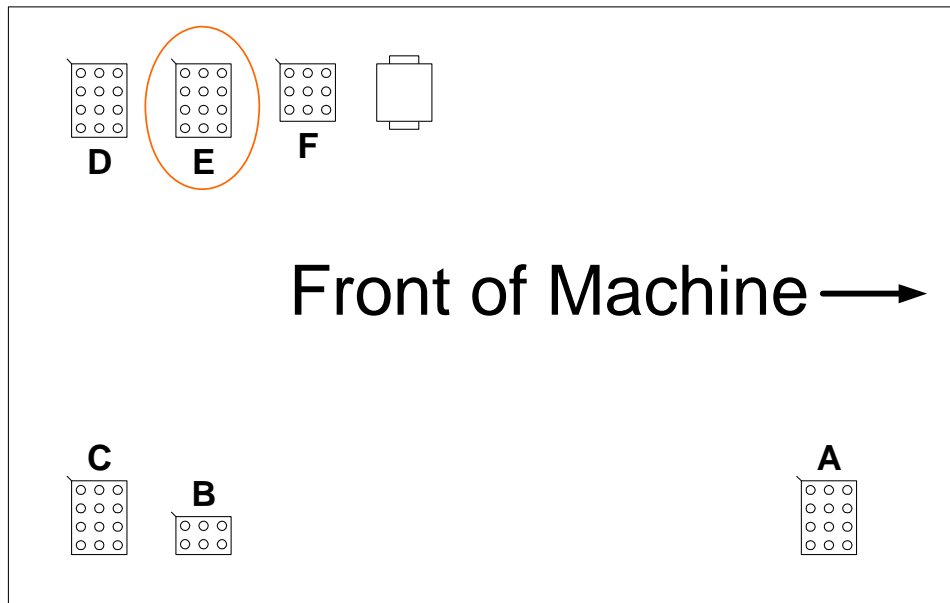

Figure 2.
Figure 2 shows the location of the drain harness plug (E) when looking down on the control box. Access inside this enclosure is not required.